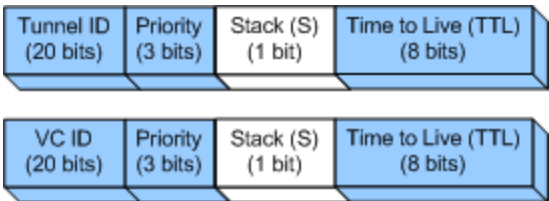

Figure 8 Generic tunnel and VC labels
Figure 8 illustrates generic tunnel and virtual circuit (VC) labels, which together comprise a VPLS header. Shaded fields are user-configurable.